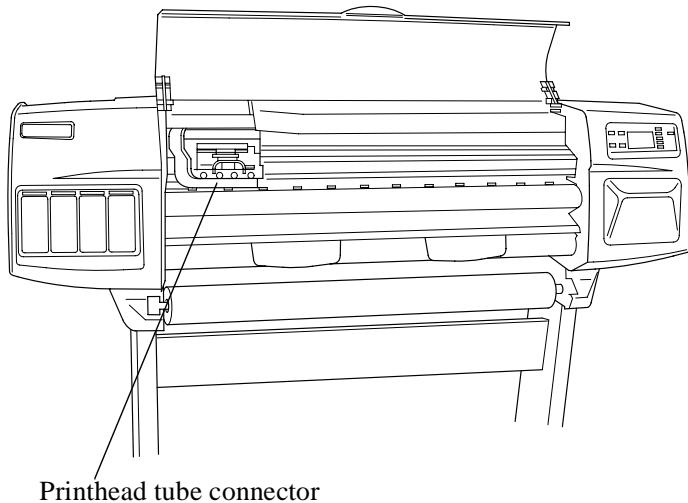
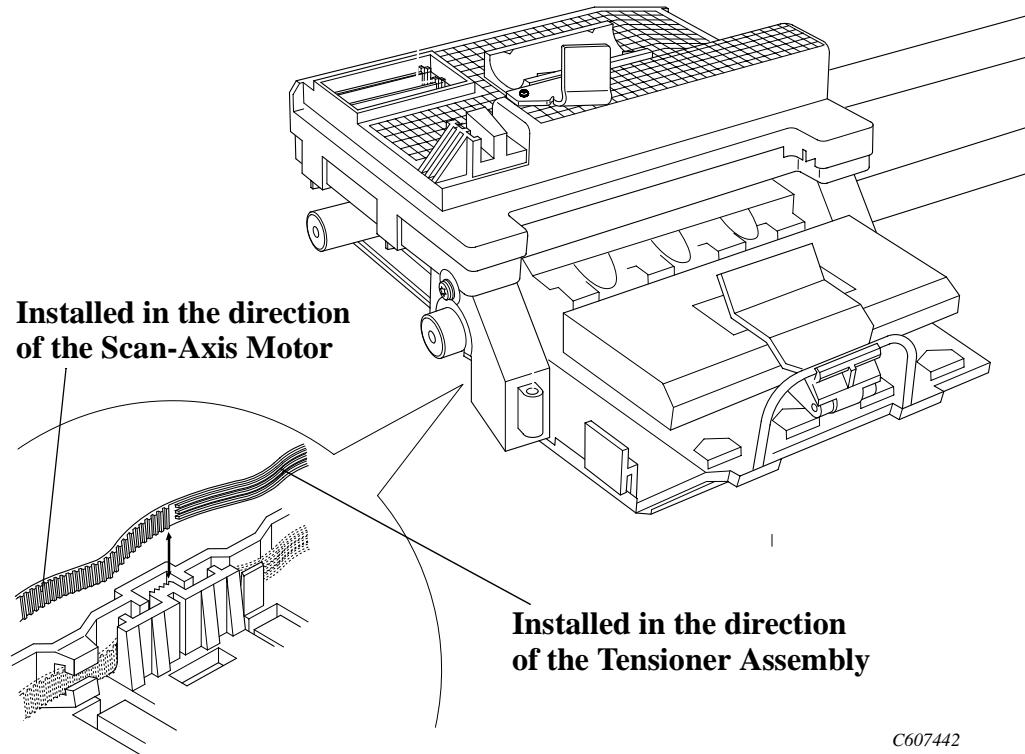

Figure 41: Carriage Assembly and Belt
Figure 51: Belt Installation
Refer to Figure 41 to Figure 51.
2. Move the carriage to a position where you can access the printhead tube connector (refer to Figure 41).
3. When installing the belt, make sure it is not twisted and is installed in the correct orientation as shown in Figure 51.